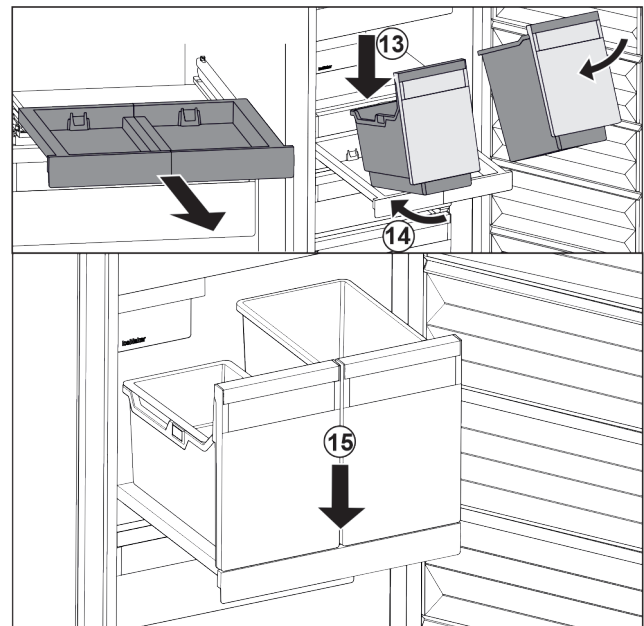

Fig. 102
- ▶ Place the container at an angle on the pull-out board. Fig. 102 (13)
- ▶ Slide in the container at an angle to the back. Fig. 102 (14)
- ▶ Place container at the front. Fig. 102 (15)